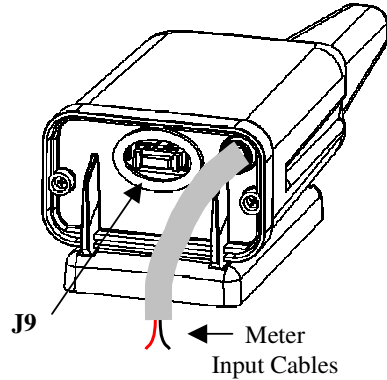

Figure 1: MTU150W™ View
4. Insert the terminator to J9 (See figure 1)
MTU150W™ has one connector (see Figure 1).
1. **J9:** The 10-pin programming jack is a serial port to connect a PC or a FTU (see Figure 1).